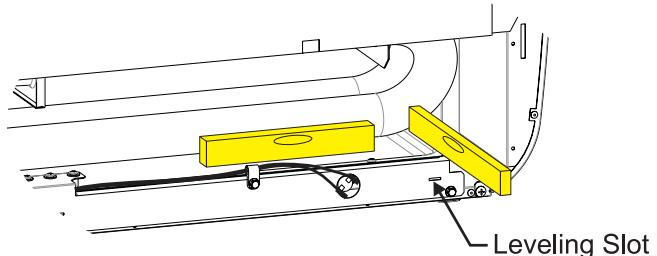

Figure 6
8. Insert a flat screwdriver into the slots on the condensate tray bracket to level the tray from front to back and side to side. Verify with a small level. Tighten the front mounting screws when level. Make sure the heated tray assembly does not sit tightly down against the bottom panel but leaves a small gap. **See Figure 6.**